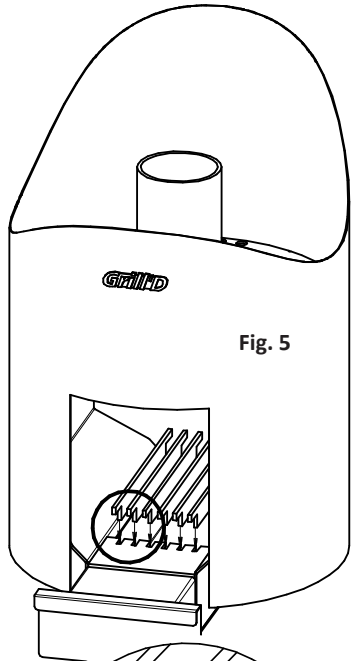

Fig. 5
There is a grate at the bottom of the heater (refer to Figure 5), it is fabricated of high duty rolled steel with a thickness of 5 mm. The grate is one of the most thermally loaded parts of the heater, and the metal used for its fabrication meets all the specified requirements. Grill'D heater firebox (5) is fabricated of steel and Schott Robax® thermal glass (Germany). An ash box with an ash drawer (4) is located under the firebox. The outer surface of the heater is covered with anti-corrosion heat-resistant enamel.
The grate consists of 6 separate plates fabricated of high duty rolled steel with a thickness of 5 mm. A separate seat is provided for each plate (Figure 5).